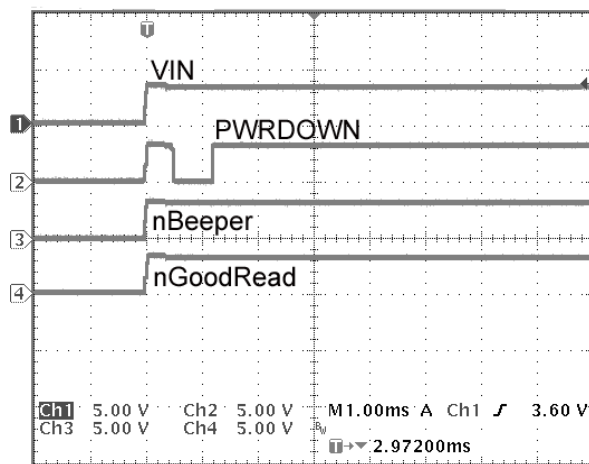
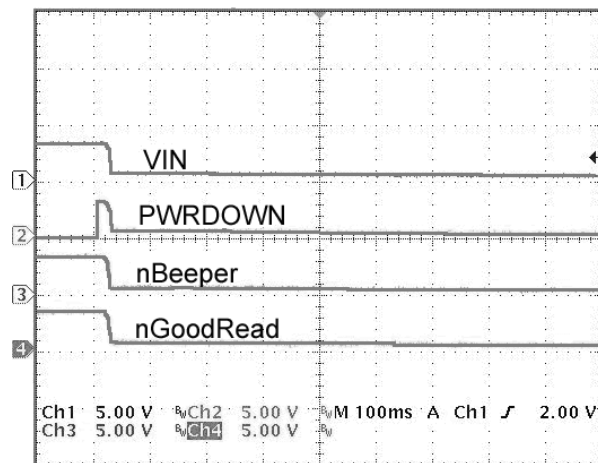

Figure 17. VIN First Applied (USB)
Figure 18. VIN Removed (USB)
**Note:** The output signals from the decode engine can experience analog behavior when VIN is initially applied or removed due to the supply voltage ramping up or down. Care must be taken to ensure that this behavior does not adversely affect the host System. Special attention must be given to the PWRDWN Pin. When power is initially applied, the output state of this line will be indeterminate for about 10mS until the USB controller exits reset. The state of this pin should be disregarded during this time. The following waveforms show several signals when VIN is first applied (Figure 17) and when VIN is removed (Figure 18).